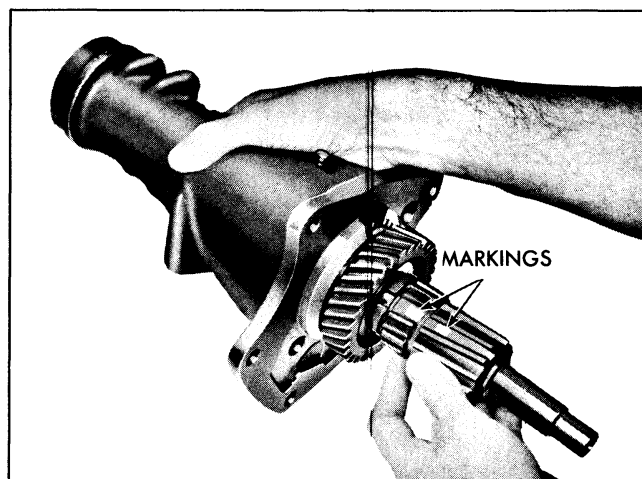

Fig. 7-36 Alignment of Synchronizer Clutch Splines on Mainshaft and Second Speed Gear
3. Align clutch splines on mainshaft with clutch splines on second speed gear so as to receive the two inner lugs of synchronizing ring of second and third speed clutch. Mark for identification (Fig. 7-36).